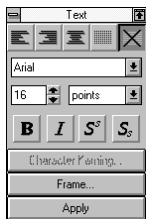

Fig. 24
**62.** The text Roll-up screen will appear as it does in **Figure 24**. Select the font by clicking the mouse on the down arrow to the right of the font box. Scroll through the font selections to the Arial font and click on it once.